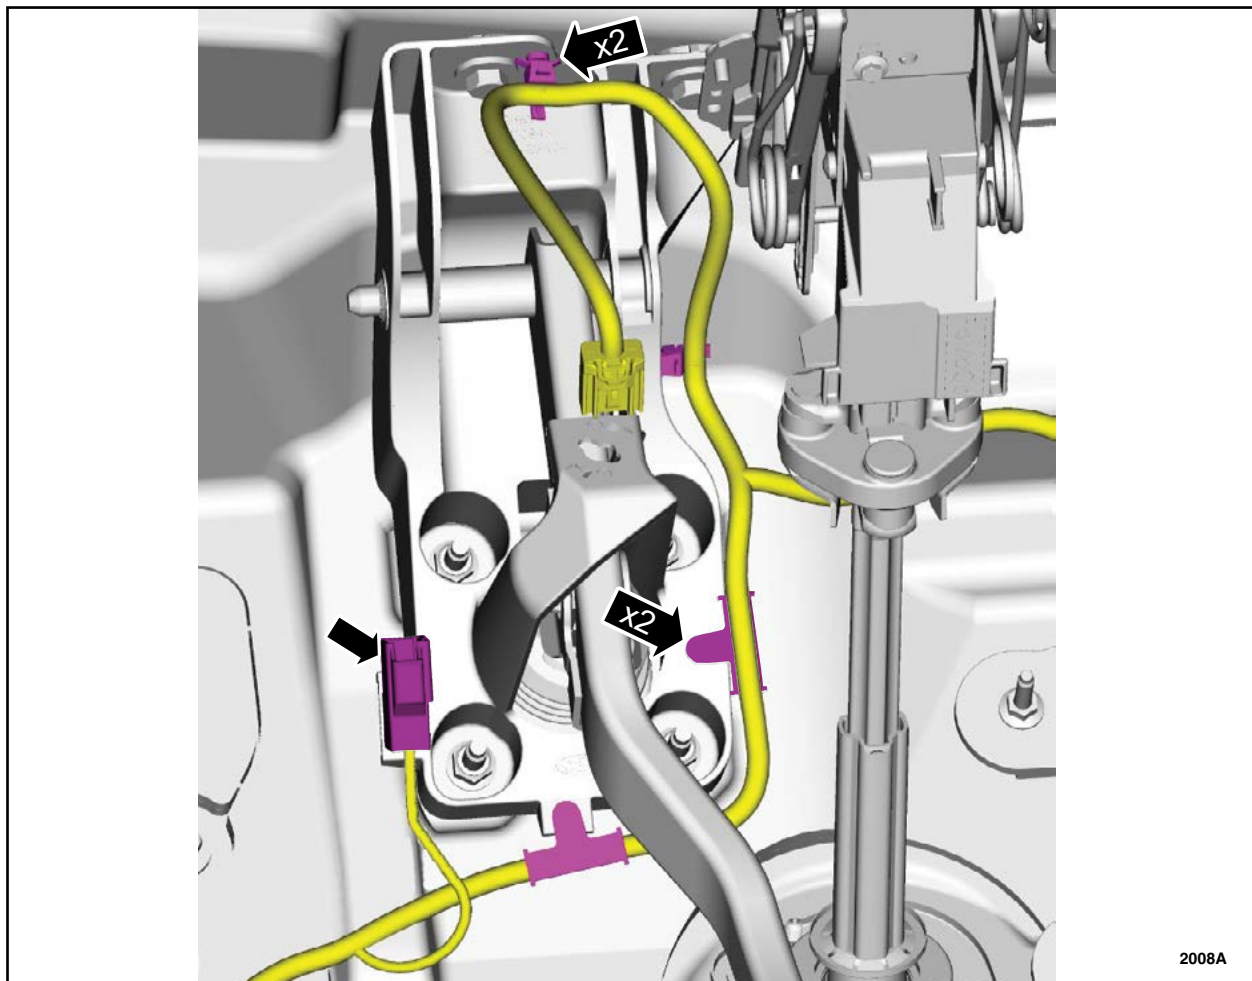

FIGURE 2
2. Detach the wiring harness retainers. See Figure 2.